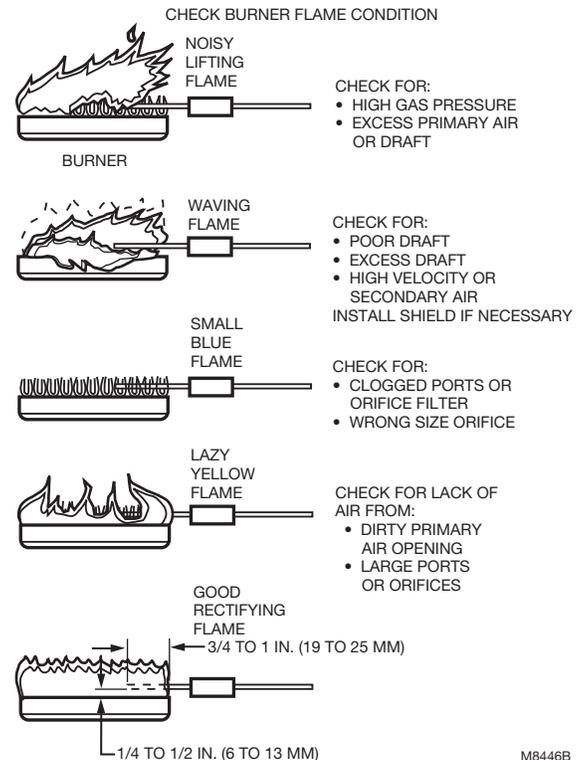

Fig. 11. Check burner flame condition.
The igniter-sensor or sensor must be constantly immersed in flame. Check burner flame condition as shown in Fig. 11. If necessary, improve the flame condition or relocate the sensor to a place on the main burner where condition is better. Do not relocate igniter or igniter-sensor.
- Make sure burner flame is capable of providing a good rectification signal. See Fig. 11.
- Make sure about 3/4 to 1 in. of the flame sensor or igniter-sensor is continuously immersed in the flame for best flame signal. See Fig. 11. Bend the bracket or flame sensor, or relocate the sensor as necessary. Do not relocate an igniter or combination igniter-sensor.